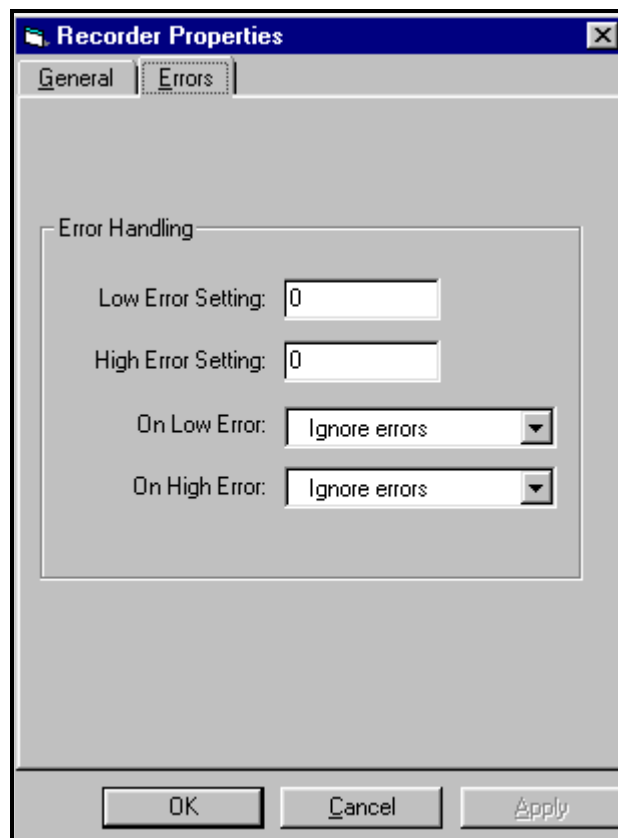

Figure 4-6: Error Handling Tab
1. To program the Series 3 for error handling, click on the “*Errors*” tab. The screen appears similar to Figure 4-6 below.